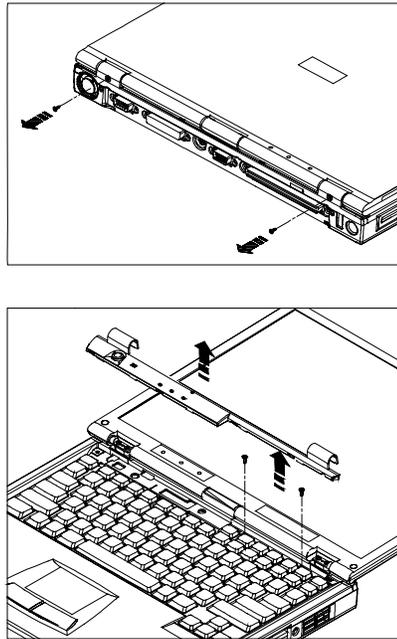

Figure 6-7: Removing the FDD Module (A)
3. Remove the two screw screws securing the System Status Indicator Panel to the cover hinge. Now remove the System Status Indicator Panel as shown in *Figure 6-7*. The System Status Indicator Panel is designed to snap-fit into place. Do not use excessive force to remove it.